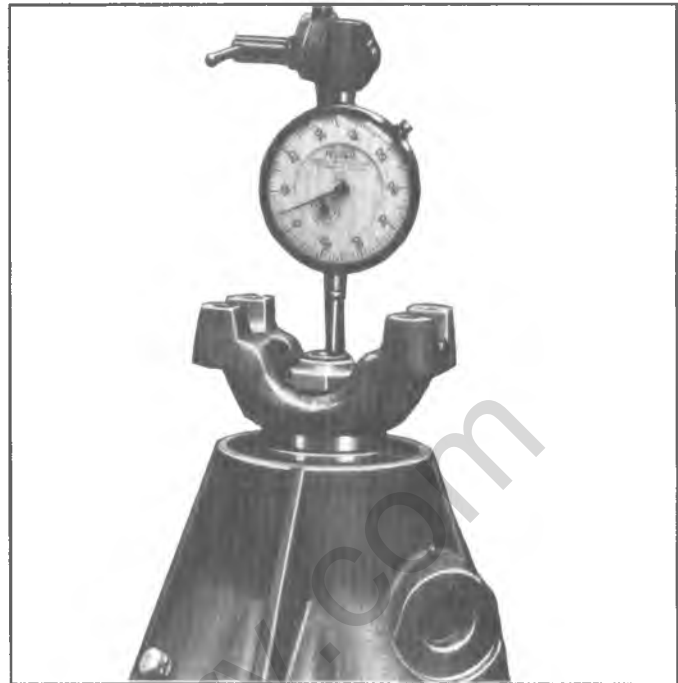

Fig. 23F—Checking Rear Output Shaft End Play lubricant.
16. Check rear output shaft end play. Install a dial indicator on the rear housing (fig. 23F) so that it contacts the end of the output shaft. Holding the rear flange, rotate the front output shaft and determine the highest point of gear hop out on the rear shaft. Zero indicator and with rear shaft set at this high point, pull up on end of shaft to determine end play (gap between bearing shoulders of shaft and the housing).